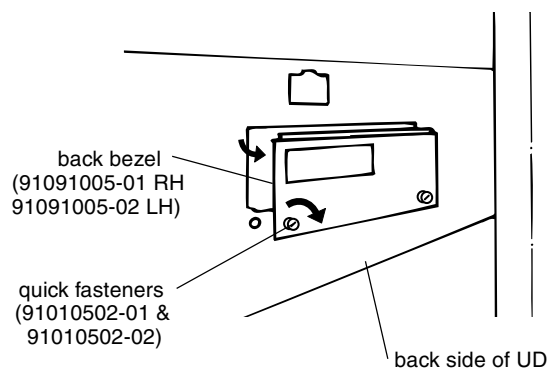

Figure 3
5. Remove "bezel" by turning quick fasteners per paragraph 3 and sliding top flange of bezel out from under the UD8 base unit. Install receptacle same as paragraph 4. (Figure 3)